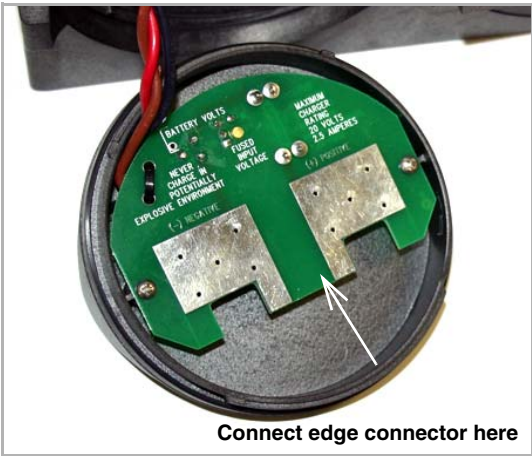

Figure 2-9 2196EX charging adaptor cable
1. Teledyne Isco offers the CB edge adaptor cable (60-2004-547) for use with chargers 2 & 3 (Figure 2-9). Simply push the 2-pin amphenol connector into the connector port on your Isco charger, and the card edge connector onto the circuit board.